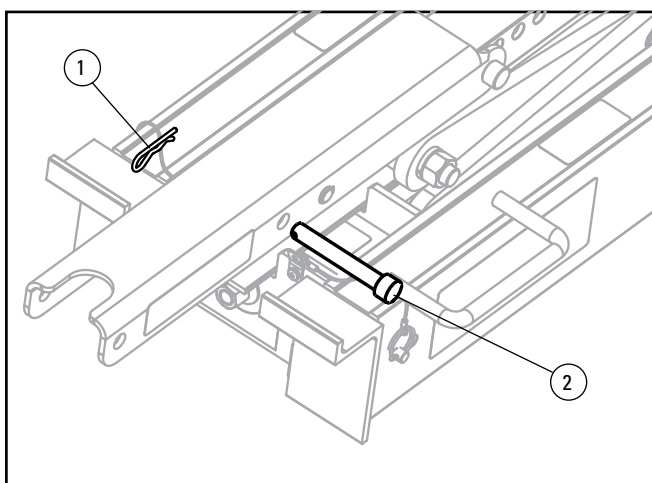
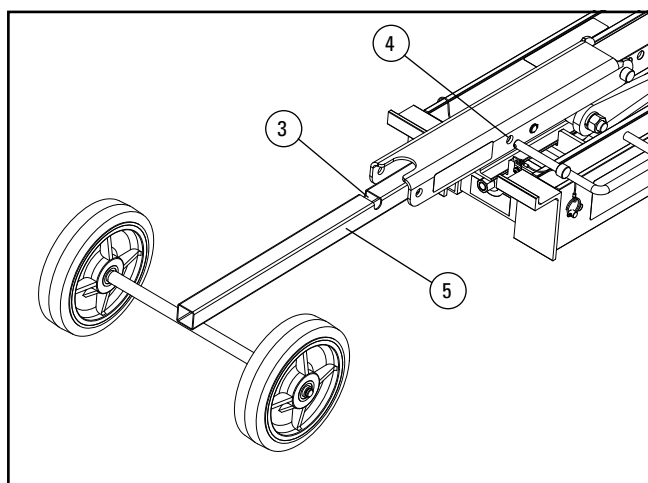
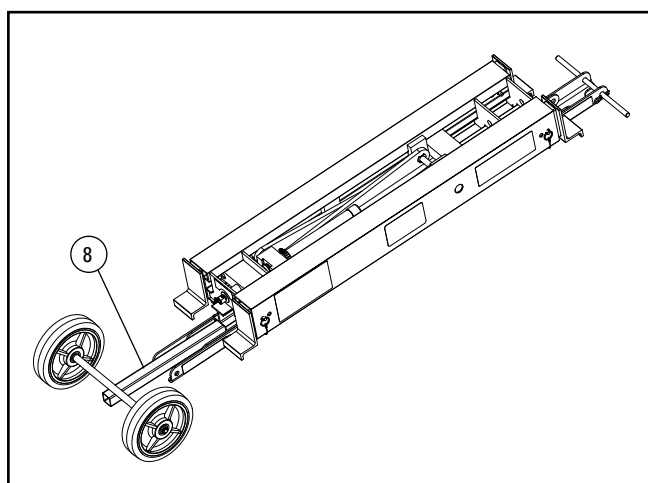

Fig. 19 Trolley assembly 1
Fig. 20 Trolley assembly 2
Fig. 22 Trolley assembly 4
See Figure 19 to Figure 22.
- 1 Remove the cotter pin (see Figure 19, pos. 1) and the pin (see Figure 19, Pos. 2) on one of the troughing belts.
- 2 Slide the tube of the wheel frame (see Figure 20, Pos. 5) through the troughing belt, into the tube of the Flex-Lifter (see Figure 20). The groove on the tube (Figure 20, pos. 3) must be able to cover the bore hole for the pin (Figure 20, Pos. 4) on the troughing belt.
- 3 Then insert the pin back into the bore hole on the troughing belt (see Figure 20, Pos. 4) and secure it by inserting the cotter pin (see Figure 19, Pos. 1).
- 5 Check that the Flex-Lifter is attached to the wheel frame, and the handlebar is tightly fixed (see Figure 22).
- 2 Remove the pin from the bore hole (see Figure 20, Pos. 4).
- 3 Remove the tube of the wheel frame (Figure 20, Pos. 5) from the troughing belt opposite.
- 4 Insert the pin back into the intended hole on the troughing belt, and secure it with the cotter pin (see Figure 19, Pos. 1 and 2).